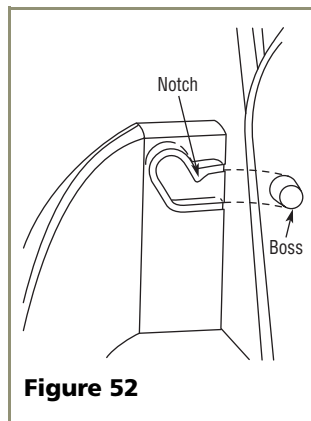

Figure 52
1. First pull shelf up at a 45° angle, then straight out (see **Figure 52**).